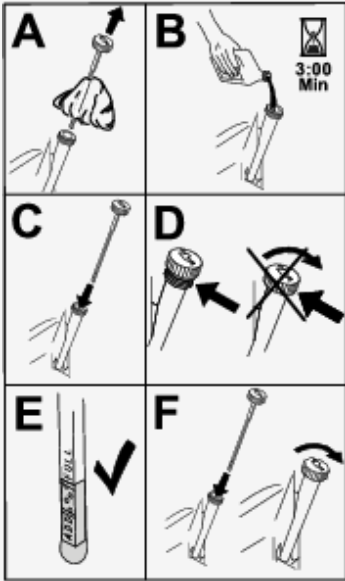

Figure 32
6. Slowly pour approximately 80% of the specified oil into the filler tube and slowly add the additional oil to bring it to the Full mark (Figure 32).